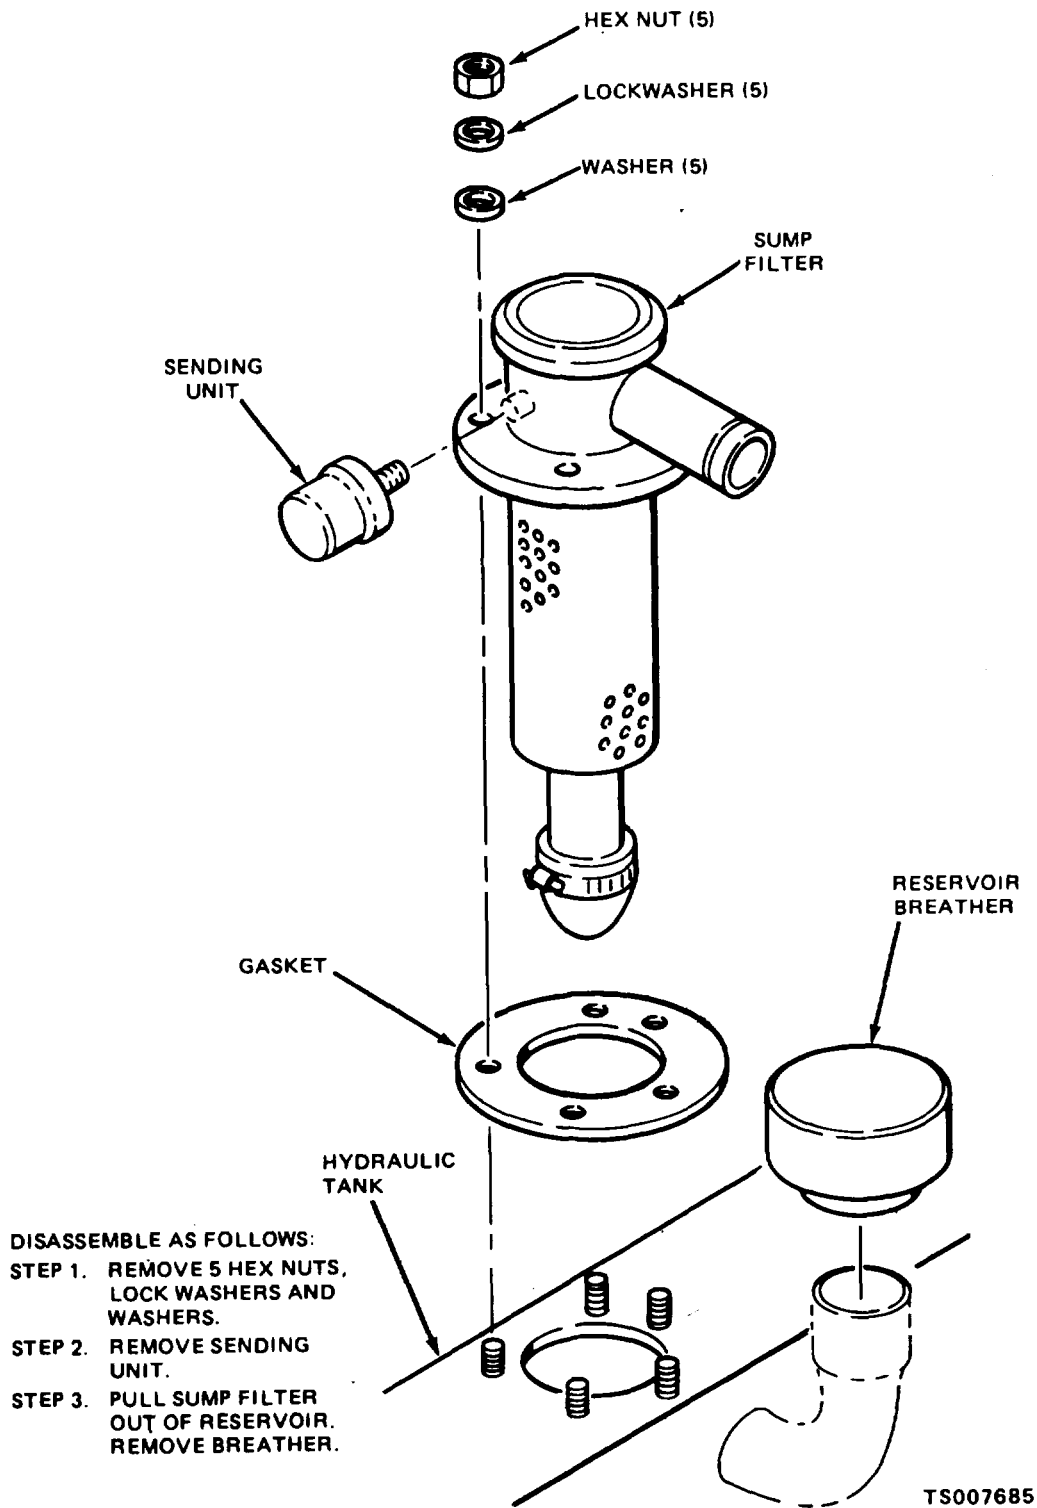

Figure 4-12. Hydraulic Oil Filter, Disassembly and Reassembly
(1) Disconnect the hydraulic hose from the hydraulic oil filter.
(2) Disassemble the hydraulic oil filter from the tank as shown in figure 4-12.
(1) Discard and replace the filter element and gaskets.
(2) Clean metal filter components with dry cleaning solvent P-D-680; dry with clean, dry compressed air. Clean the interior of the hydraulic tank with a clean cloth. Rinse with 2 quarts of hydraulic oil.
(3) Inspect the filter case for cracks, distortion, damaged mounting flange, and other damage; replace if damaged.
(4) Inspect the cover for cracks, scored or damaged outlet connection, studs that are loose or have damaged threads, or a damaged mounting flange.
*d. Reassembly.* Reassemble the filter as shown in figure 4-12.
*a. Removal.* Remove the hydraulic reservoir breather (fig. 4-12) by unscrewing it from the hydraulic reservoir filler pipe.
*c. Installation.* Install as shown in figure 4-12.